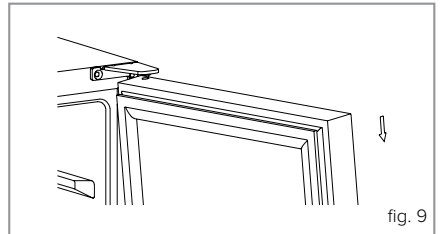

fig. 9
4. Gently lower the door away from the top hinge and place on a padded surface to avoid the risk of damage as shown in fig. 9.